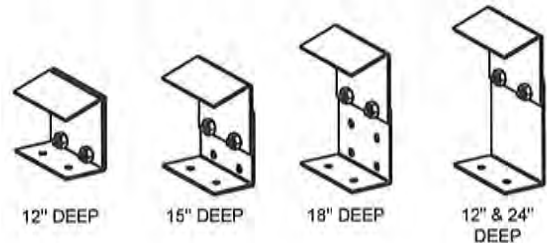

Figure 7.2 Slope Top Rear Bracket Assembly
- 7.1 Adjust the rear slope top bracket assembly to the correct height for the depth of locker to be installed on (Fig 7.2). Locate them as indicated on the shop drawings. Install with (2) #14 X 1" screws thru the inside of the locker back vent holes.